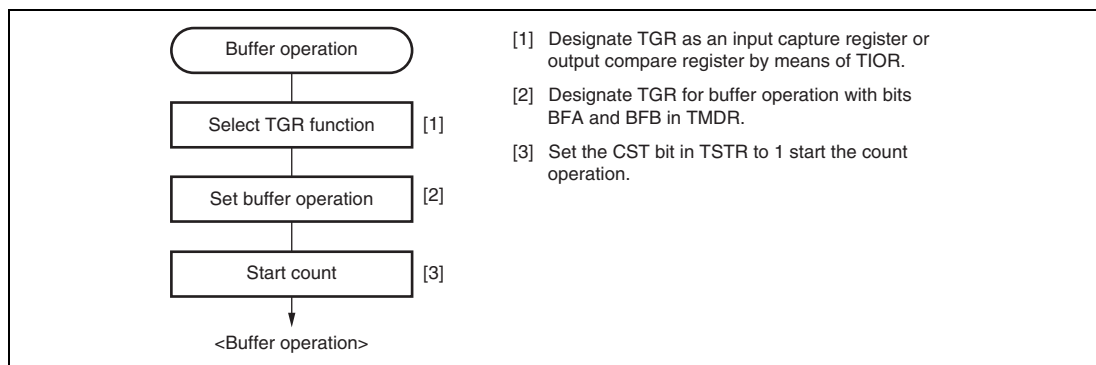

**Figure 11.15 Example of Buffer Operation Setting Procedure**
**Example of Buffer Operation Setting Procedure:** Figure 11.15 shows an example of the buffer operation setting procedure.